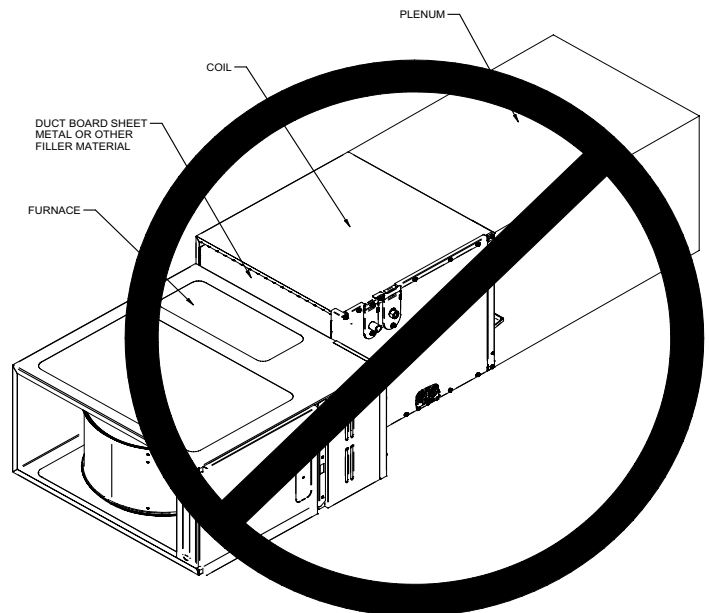

Figure 3
2. Please use Z-Bracket provided with units to fill the transition gap between furnace & coil when coil is one size larger than furnace. Additional gaps must be filled with insulated tape or putty to prevent air leakage. Figure 3 indicates incorrect coil/furnace attachment method.